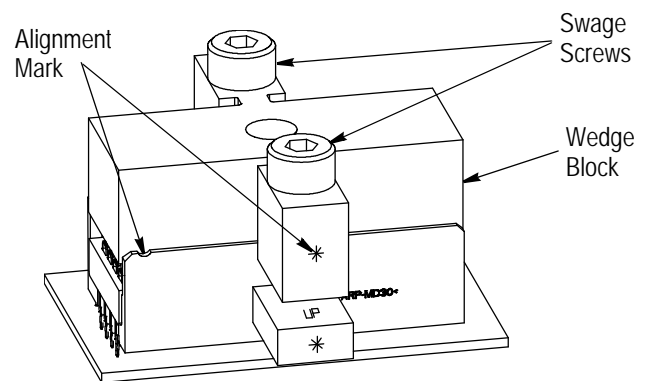

Figure 4
4. Place the wedge block onto the swage block and insert the swage screws into the wedge block. Do not tighten the swage screws. Orient the wedge block as shown in Figure 4.